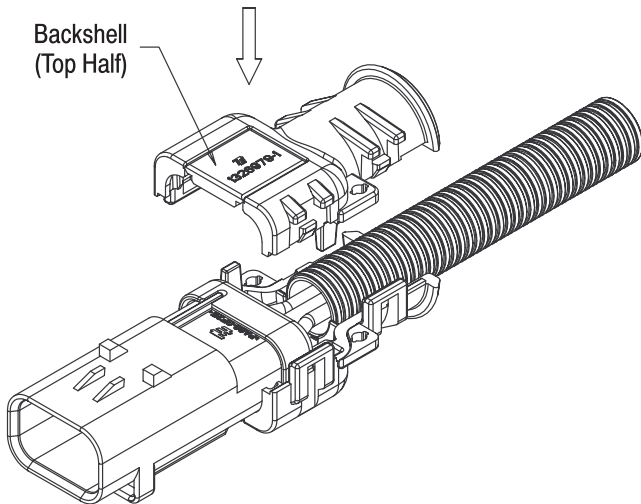

Figure 4A
6. For assembly to a receptacle connector, turn the top half of the backshell over. Again, insert the connector into the backshell so that the wire seal cover is behind the second rib at the opening of the backshell and the conduit retention rib is in a well of the conduit. Firmly press the two halves together. An audible click will indicate when they are mated. See Figure 4A.